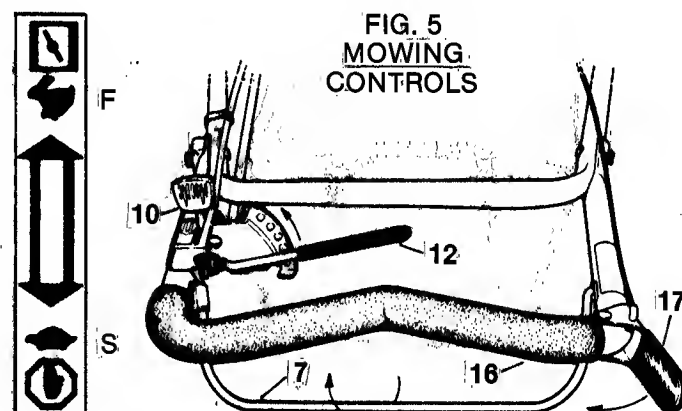

FIG. 5
Set the ENGINE CONTROL lever (10) in the fast (F) position when cutting tall, thick grass. For shorter, less dense grass, use a slower (S) position. Refer to FIG. 5.